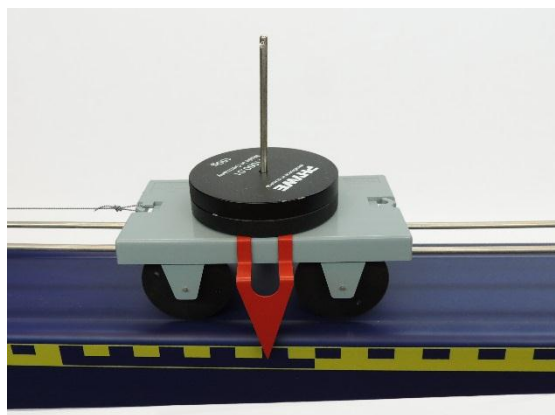

Figure 5.6: Movable cart with added slotted masses.
- 2- Place 400 gm of slotted mass (9) on the weight holder (8) of the cart (7) as shown in Figure 5.6.